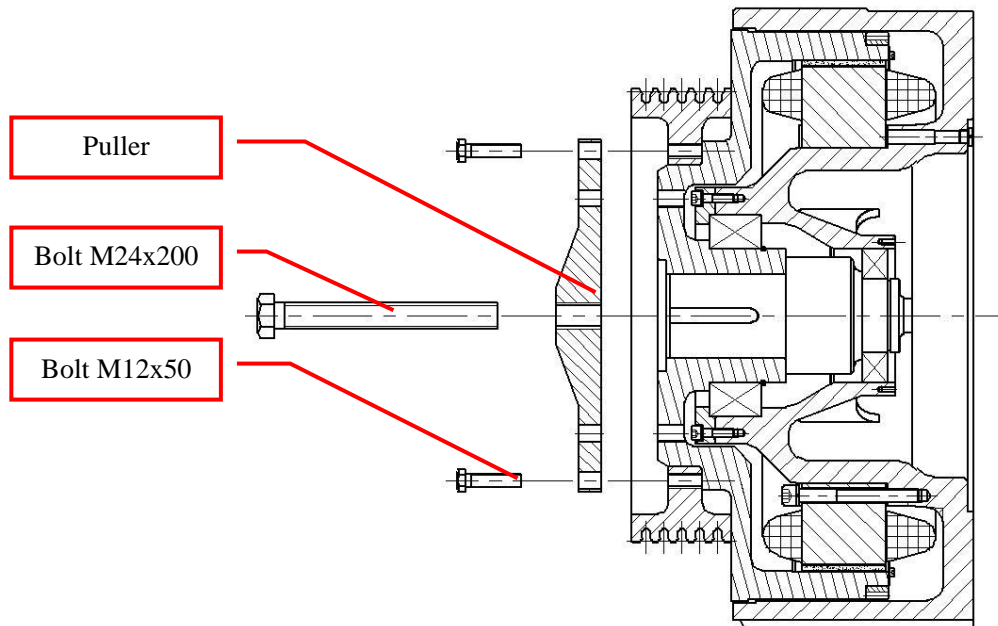

Figure 46: Install puller and M24x200 bolt
5. Install the puller onto the end face of the traction wheel and screw into two bolts M12x50 to fix, then screw the bolt M24x200 into the puller. See Figure 46.